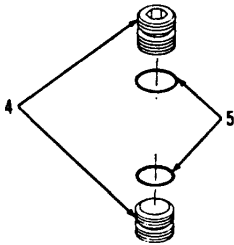
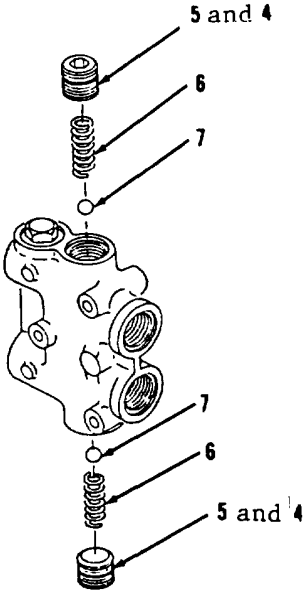

Figure 10-118.
Figure 10-117.
- 8. Install two new preformed packings (5) on plugs (4, Figure 10-118).
- 9. Install two balls (7) and springs (6).
- 10. Install items 5 and 4 as an assembly (Figure 10-117). Tighten two plugs (4) to 25 ft-lb torque.